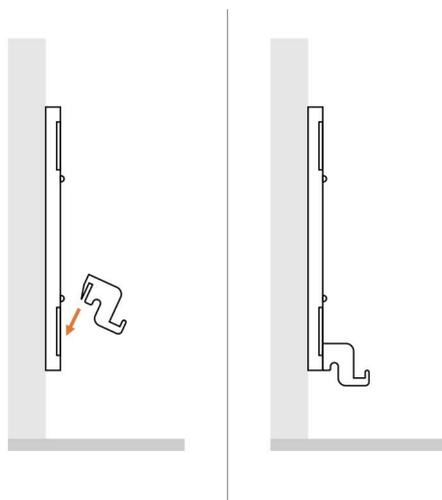

Figure 5 | Inserting bottom hooks
7. Fit the two bottom hooks into the slots on the U-rails with the hook facing up, as shown in **Figure 5** below.